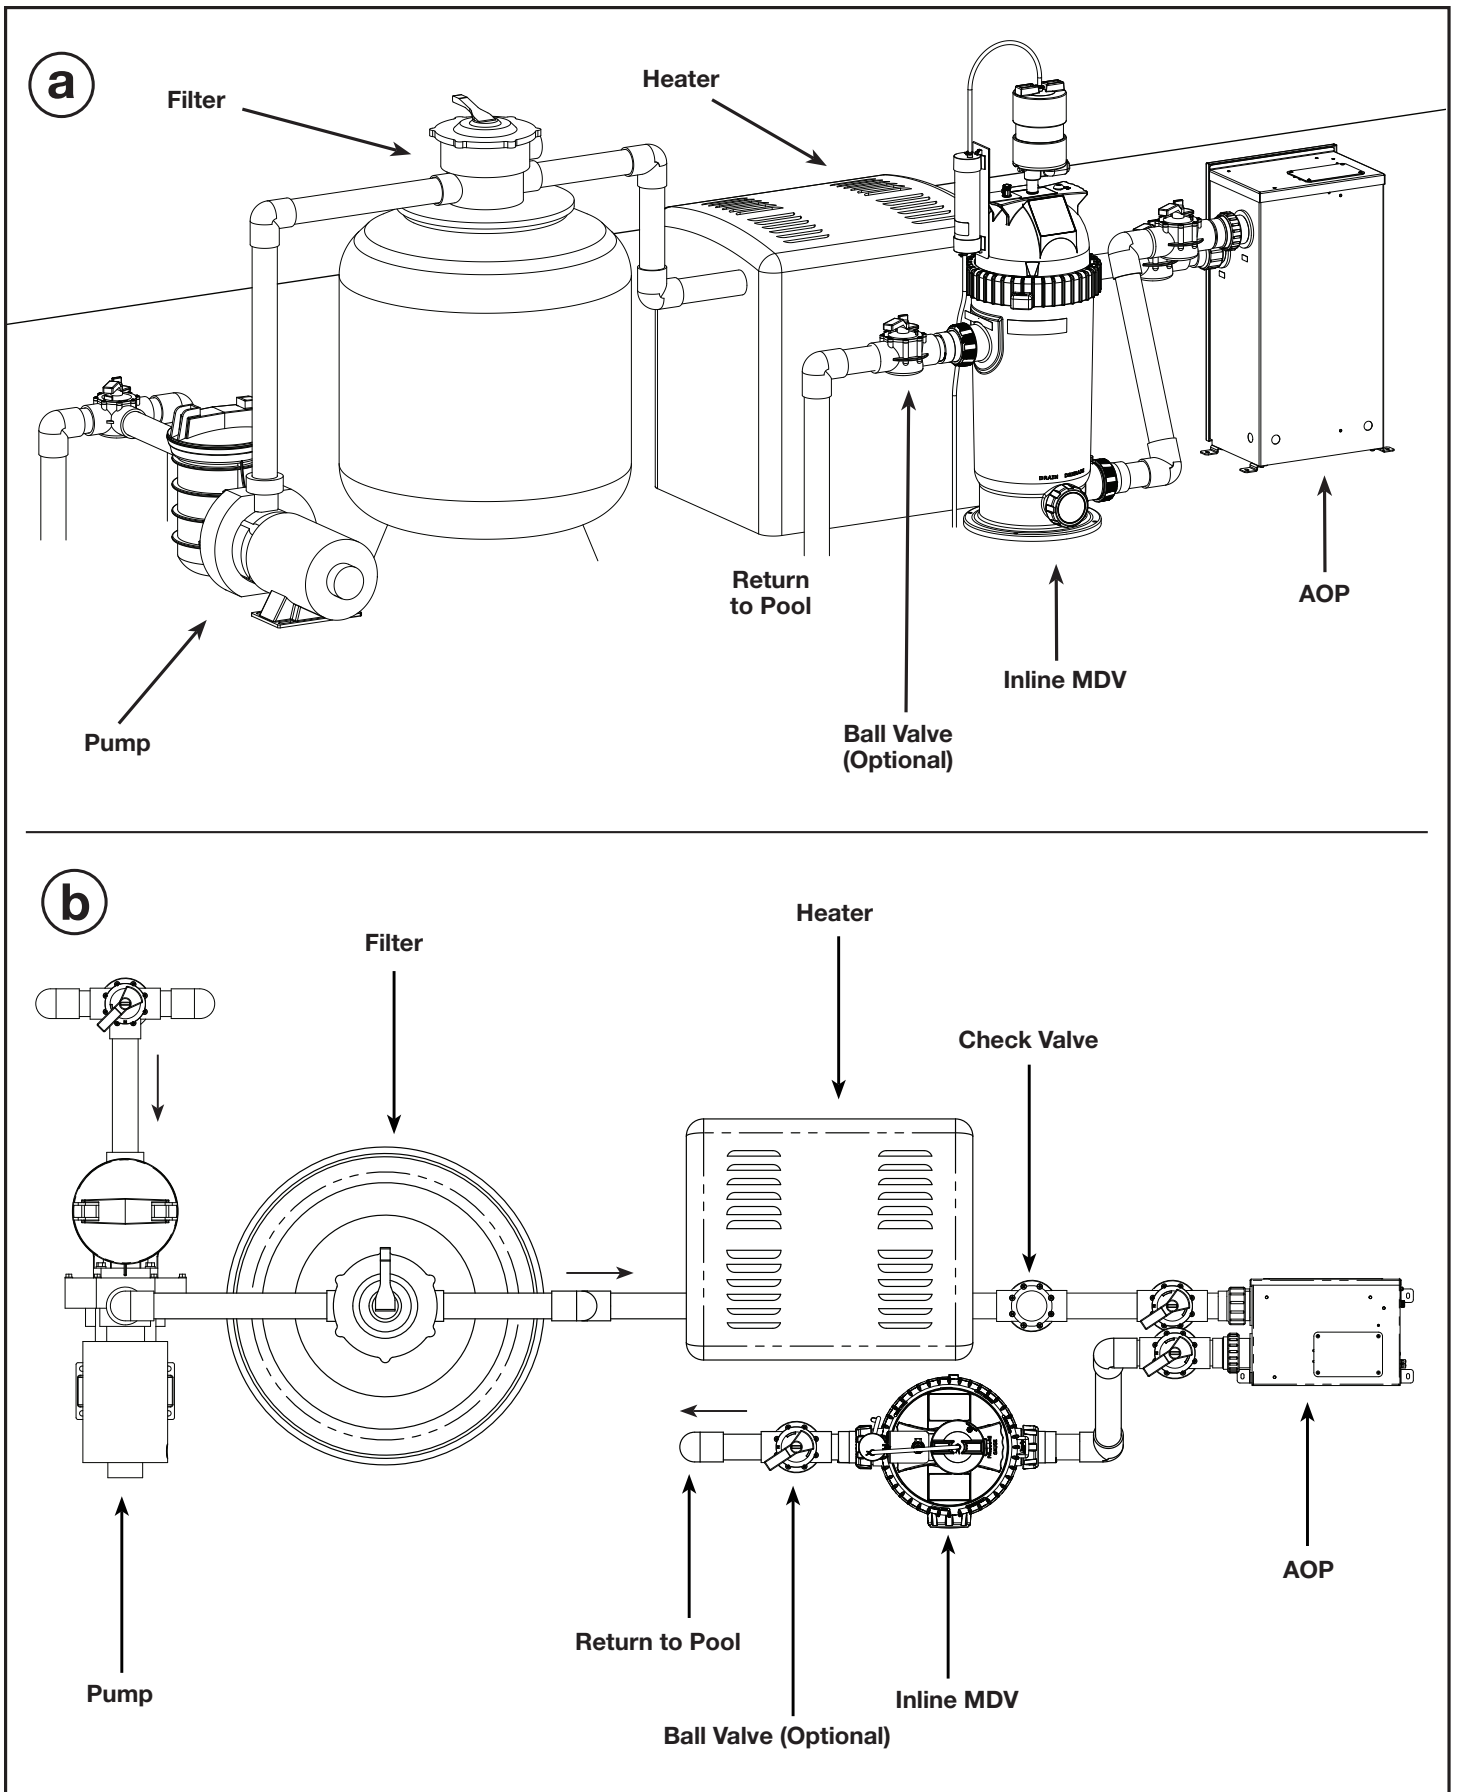

Figure 1. System View (a), System Aerial View (b)
- The MDV must be installed in an outdoor location, or indoors in a forced air ventilated room, and installed so that the orientation is exactly as shown in **Figure 1**. Install to provide water drainage of generator to protect electrical components.
1. Plumb the MDV downstream of the AOP system as shown in Figure 1.
NOTE: The JAOPX500 system with same side plumbing is shown in Figure 1. Some AOP units may also have opposite side plumbing.
10. If the MDV does not fill properly, gas bubbles will return to the pool. In this case, an additional ball valve may be needed to maintain an adequate water level in the housing. Install the ball valve just after the MDV outlet. See Figure 1. Close the valve only enough to prevent bubbles from returning to the pool.